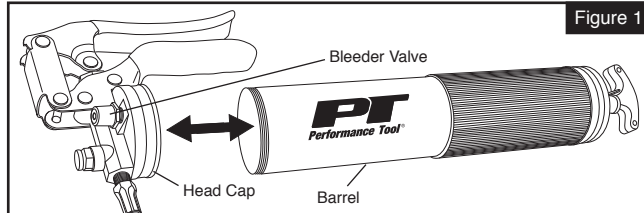

Figure 1
1. Rotating counter clockwise, unscrew Head Cap from gun Barrel. (Figure 1)